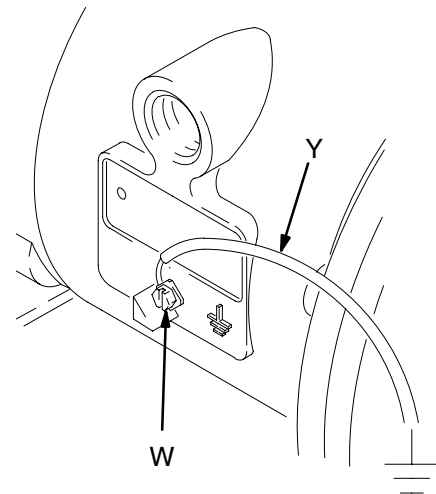

Fig. 1
*Polypropylene and Kynar are **not** conductive.* Attaching the ground wire to the grounding lug will ground only the air motor. When pumping conductive flammable fluids, **always** ground the entire fluid system by making sure the fluid has an electrical path to a true earth ground. See Fig. 1.
- **Air Motor:** Connect a ground wire and clamp as shown in Fig. 1. Loosen the grounding screw (W). Insert one end of a 12 ga (1.5 mm²) minimum ground wire (Y) behind the grounding screw and tighten the screw securely. Connect the clamp end of the ground wire to a true earth ground. Order Part No. 237569 Ground Wire and Clamp.